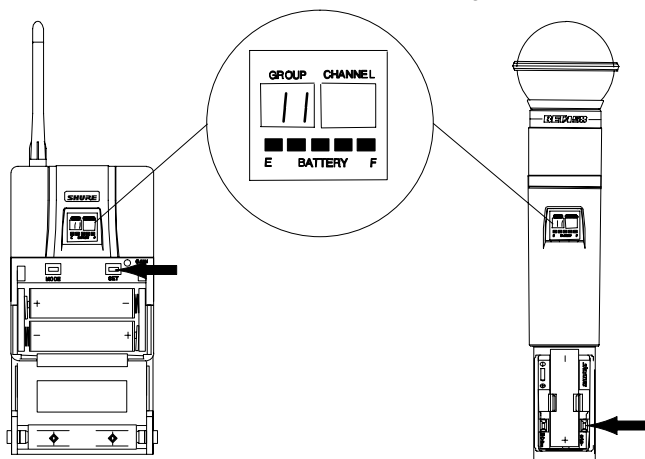

FIGURE 39
- Press the SET button to increment the Group setting, as shown in Figure 39.